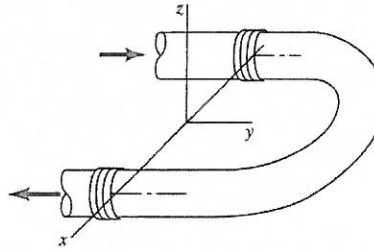

Figure P5.39
5.39 Water flows through a horizontal, 180° pipe bend as is illustrated in Fig. P5.39. The flow cross-sectional area is constant at a value of 9000 mm². The flow velocity everywhere in the bend is 15 m/s. The pressures at the entrance and exit of the bend are 210 and 165 kPa, respectively. Calculate the horizontal (x and y) components of the anchoring force needed to hold the bend in place.